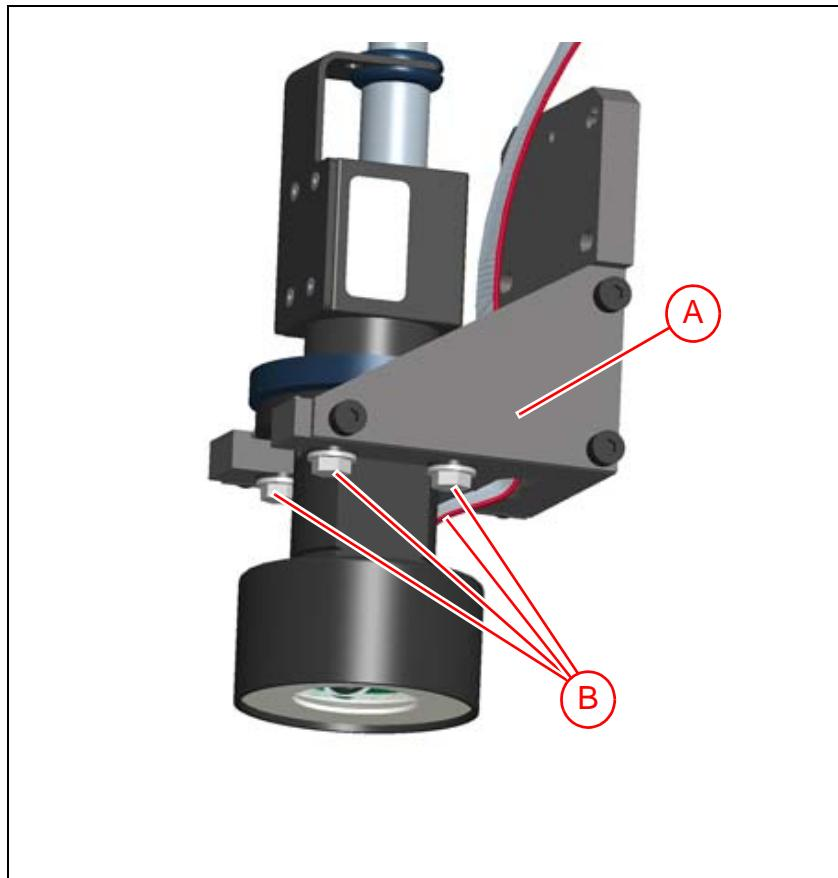

Figure 9-4. Adjust camera Y position.
5. Under the camera unit bracket ('A' in Figure 9-4) there are two locking screws on each side of the bracket ('B'). Slightly loosen these screws to adjust the cameras Y position.
7. Tighten the locking screws ('B' in Figure 9-4).